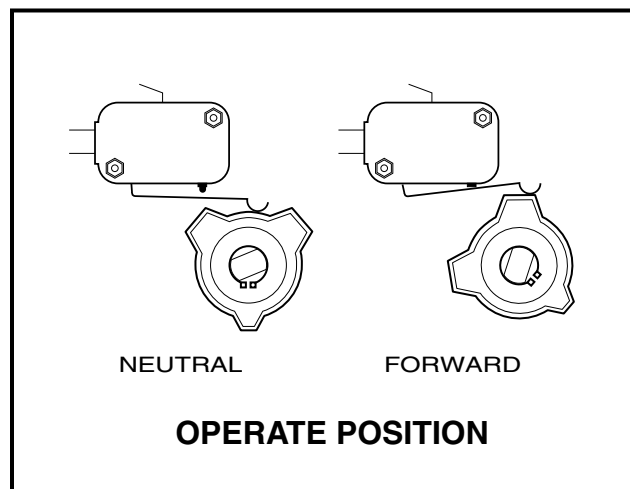

Figure 3-10 Neutral Lockout Cam - Operate Position
- **All Gasoline Vehicles:** To put the cam back into the OPERATE position, pull the cam out approximately 3/8 inch (10 mm) and rotate it one half turn until it snaps into place (**Figure 3-10, Page 3-6**).